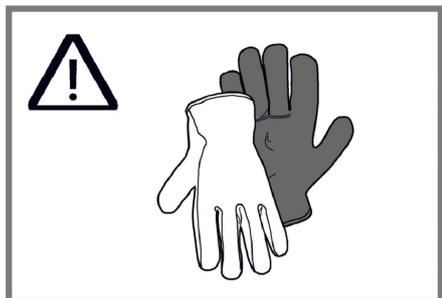

Fig. 10
- Parts inside the appliance may have sharp edges. Use protective gloves (Fig. 10).